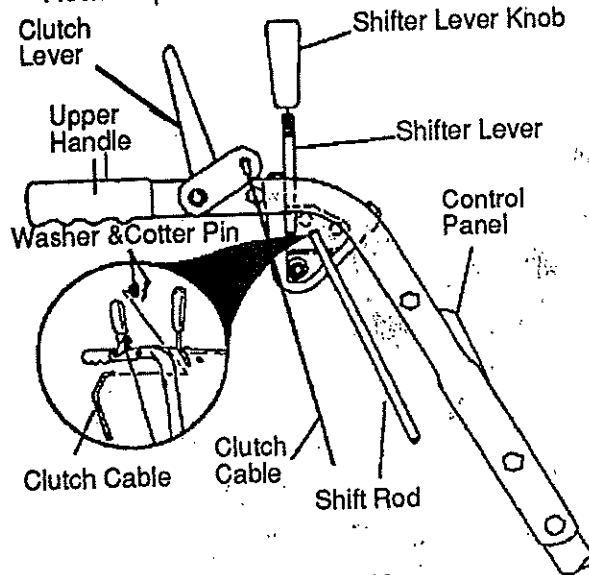

FIG. 7-ASSY
- Attach shift rod, set aside earlier, to the shifter lever with one (1) flatwasher and (1) cotter pin (found in parts bag) (See FIG. 7-ASSY).